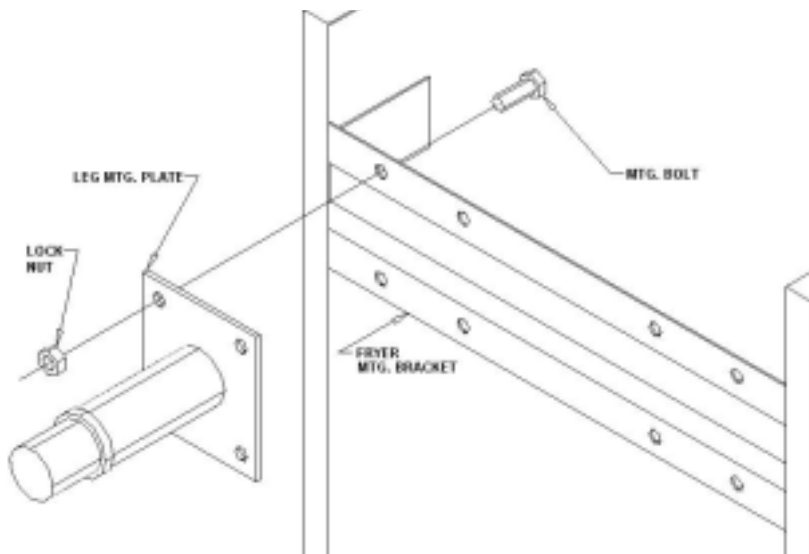

Figure 3. Typical Leg Installation
2. Position the side of the fryer flat on the carton, exposing the fryer bottom mounting brackets for leg installation, as shown in Figure 3.